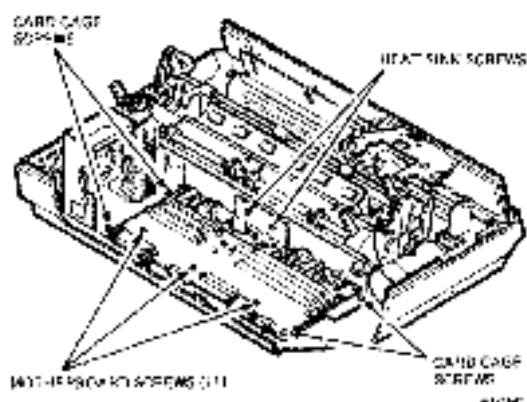

Figure 2-15 Motherboard and Card Cage Screw Locations
3. Remove the two screws securing the heat sink to card cage (Figure 2-15).
4. Remove the 11 screws securing the motherboard to the bottom of card cage (Figure 2-15).
3. Remove the four card cage screws securing card cage to bottom cover (Figure 2-15) and lift card cage out.